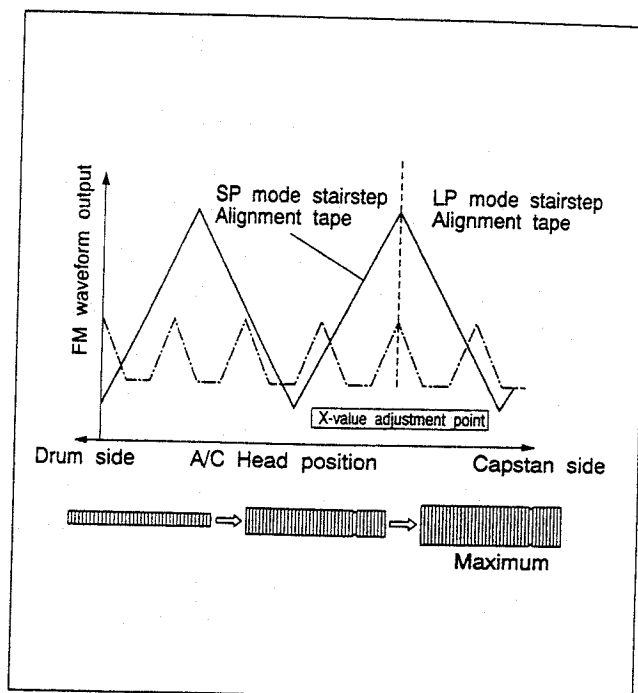

Fig. 2-7-7
- (5) Turn the tool first to position the A/C head fully toward the capstan. Then gradually return it toward the drum and stop at the position of maximum FM waveform output level as shown in Fig.2-7-7.
- (6) Tighten screw (5). Remove the tool and tighten screw (4).
- (7) Eject the SP alignment tape [MHPE] and then re-insert the LP alignment tape [MHPE-L].
- (8) Playback the LP stairstep portion of the alignment tape [MHPE-L].
- (9) Set the neutral manual tracking position by pressing the **///** button on the remote controller.
- (10) Confirm maximum playback FM waveform output level as shown in Fig.2-7-7.
- (11) If not maximum, slightly loosen the screws (4) and (5). Use the tool and adjust the head position for the nearest maximum point. Then tighten screws (4) and (5).